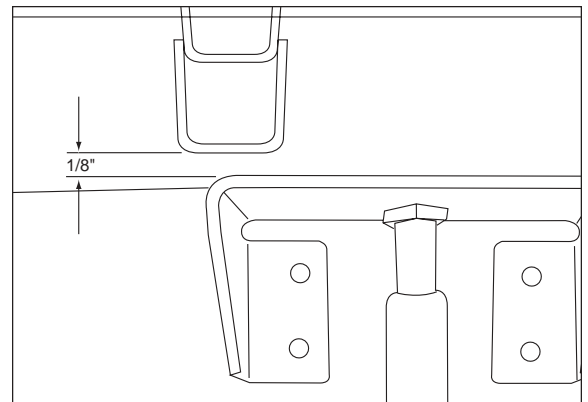

Figure 11
- c. **2000 Dodge 1500:** There must be 1/8" of clearance from the upper bracket to the bed crossmember when mounting the upper bracket to the frame (Figure 11).
- a. **'99 Silverado/Sierra and late model Ford F-150s:** Install a self-tapper (Q) in the forward upper hole and tighten securely. In the rear upper hole, install a washer head frame bolt (N), large flat washer (M), and nylock nut (K). Refer to Figure 11. Torque to 20 ft-lbs.
- b. **Dodge Dakota:** In the forward upper hole, install a spacer (P) behind the upper bracket. In both forward and rearward holes, install washer head frame bolt (N), large flat washer (M), and nylock nut (K). Torque to 20 ft-lbs.
- d. **All other vehicles:** Install washer head frame bolt (N), large flat washer (M), and nylock nut (K) in both mounting holes. Torque to 20 ft-lbs.